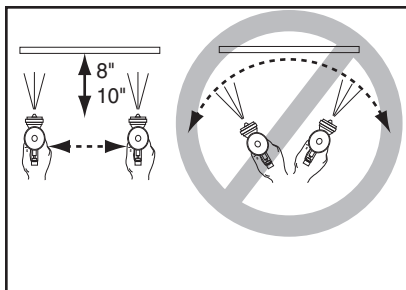

Figure 10. Spray technique.
11. Keep the gun tip perpendicular, parallel and 8-10" from the work at all times when spraying as shown in **Figure 10**. Do not allow your wrist to bend. This will cause the gun to arc across the surface and distribute the material unevenly, possibly creating sags and dry spots.